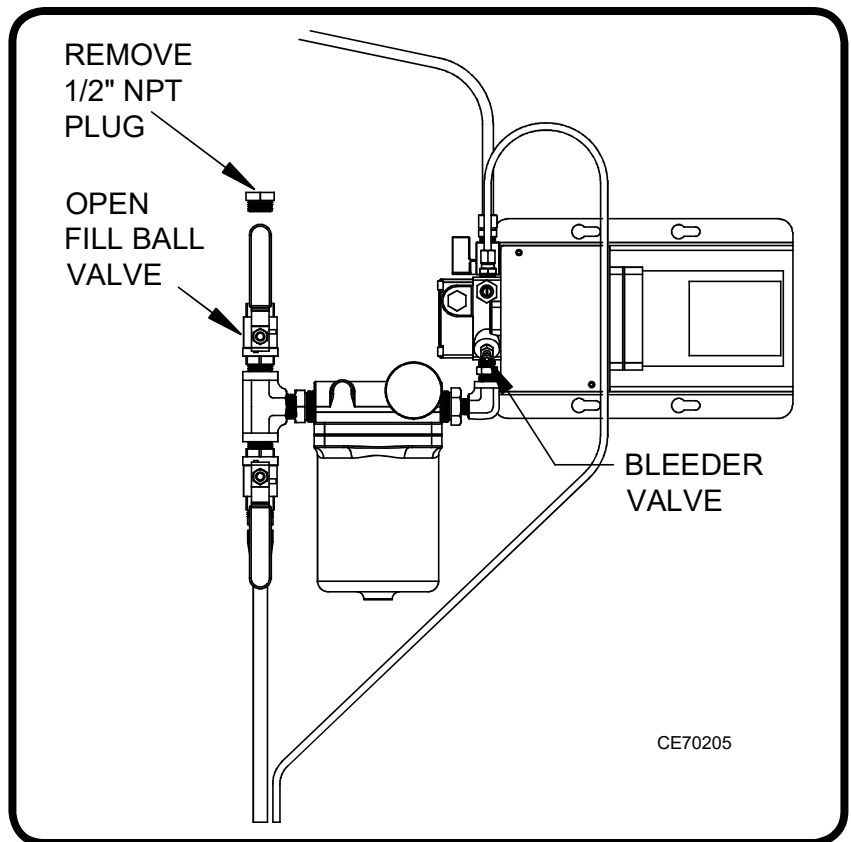

Figure 24: Priming the Metering Pump System
- (1) Refer to Figure 24.
- (2) Remove the 1/2" NPT plug and open the ball valve on the inlet of the filter.
- (3) Pour oil into the inlet of the filter until the suction oil line, filter, and pump head are full.
- (4) Close the ball valve and insert the 1/2" NPT plug.
- (5) If the pressure oil line (from the pump to the furnace) is longer than 25 feet it is recommended to disconnect the oil line at the furnace and position a bucket under the line to catch the oil.
- (1) After the burner starts, press and hold the reset button for 15 seconds until the small yellow light on the primary control ("Pump Prime") turns on (the burner will shut off).
- (2) Release the reset button. The yellow light will turn off and the burner will start again.
- (3) Within 15 seconds click (push and release) the reset button. This will transition the primary control to "Pump Prime" mode which will bypass the flame sensor and keep the pump on for 4 minutes.
- (4) Open the pump bleeder valve and purge all air bubbles from the pump (refer to figure 24).
- (5) After 4 minutes the yellow light on the primary control will turn off and the control will automatically return to standby mode.
- (6) Repeat steps 1 - 5 until the pump is fully primed and oil is delivered to the burner.